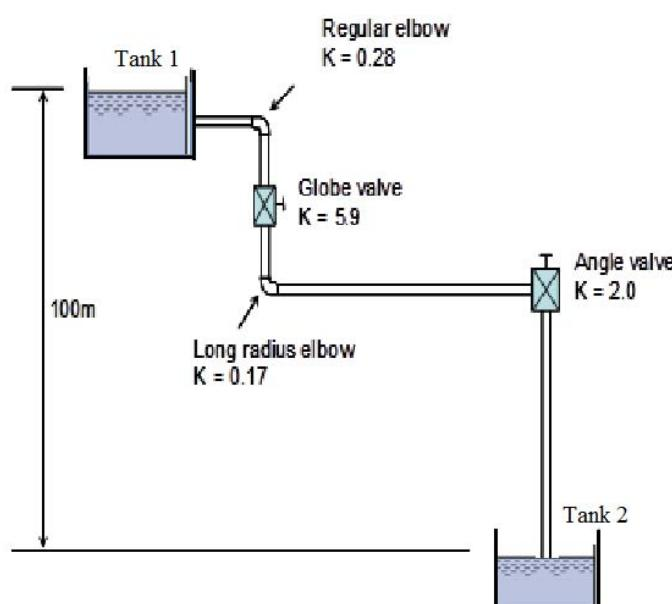

Figure 2/ Rajah 2
- [b] Water flows from Tank 1 to Tank 2 as shown in **Figure 2**. Determine the discharge in Tank 2 if the characteristics of the pipe are :